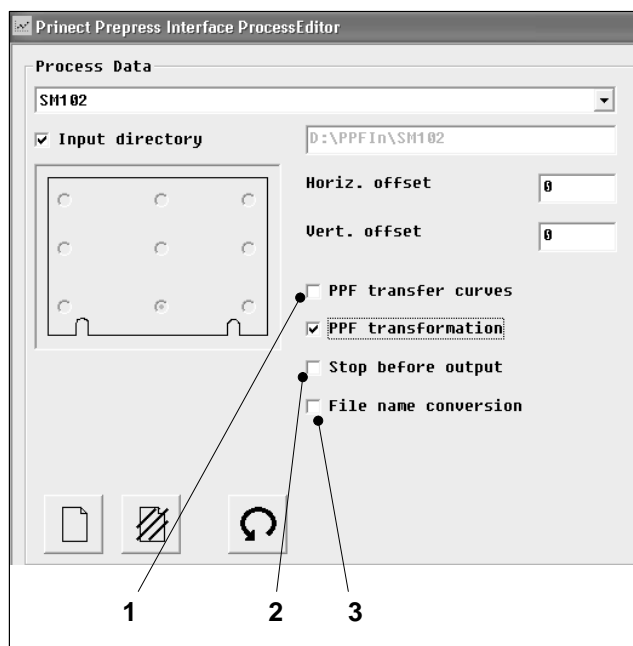

Fig. 16 The Process data section
4. Activate or deactivate *PPF transfer characteristic curves* (Fig. 16/1).
5. Activate or deactivate *Stop before output* (Fig. 16/2).
6. Activate or deactivate *File name conversion* (Fig. 16/3).